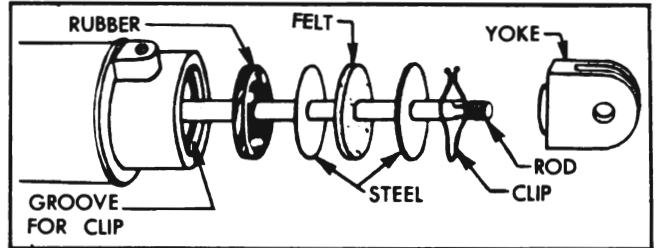

Figure 13-58—Power Cylinder Oil Seal Parts
6. Unsnap oil seal washer retaining clip from groove in cylinder, then pull piston rod out until both steel washers and the felt washer can be removed. Use a sharp pick to remove the rubber oil seal washer. See figure 13-58.
7. Install new rubber washer, felt washer, and clip from the oil seal package. Install all parts in the order shown in figure 13-58.